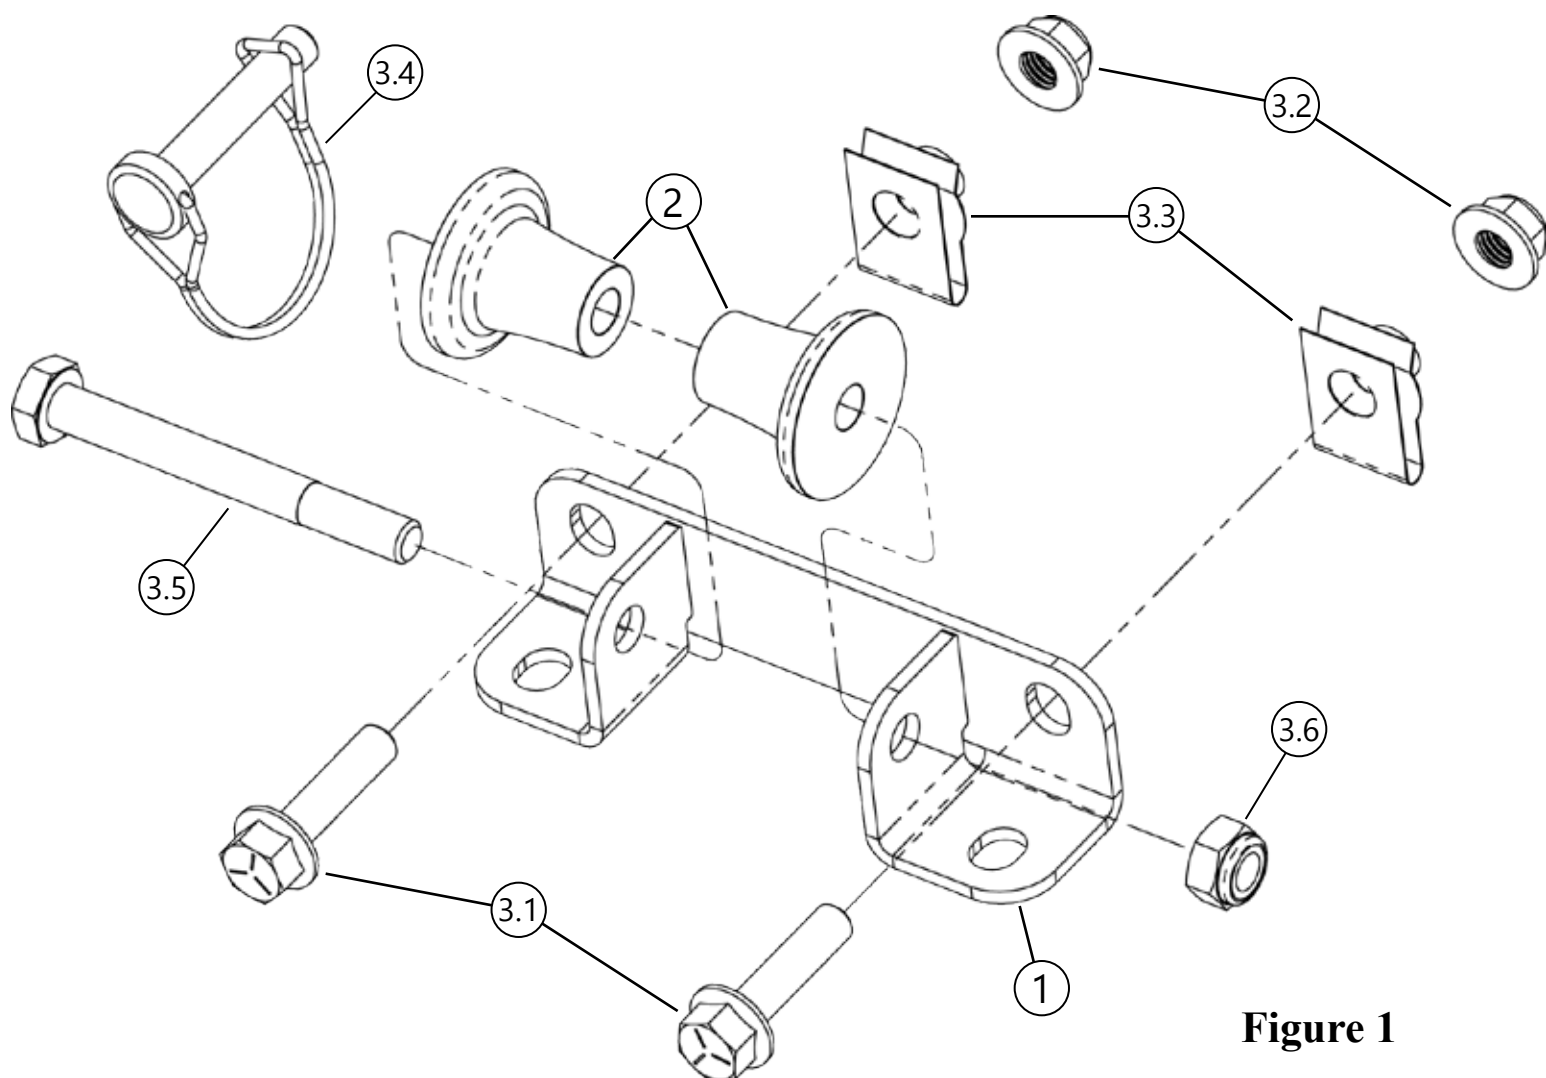

Figure 1
1. Assemble Tapered Plow Strap Rollers (2) onto Pulley Bracket (1) as shown in **Figure 1**.